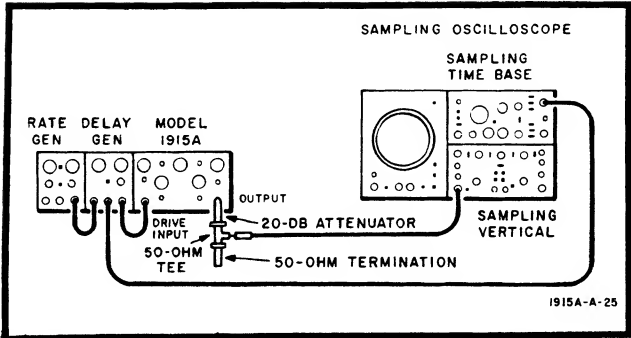

Figure 5-6. Sampling Oscilloscope Test Setup
- a. Connect equipment as shown in Figure 5-6.